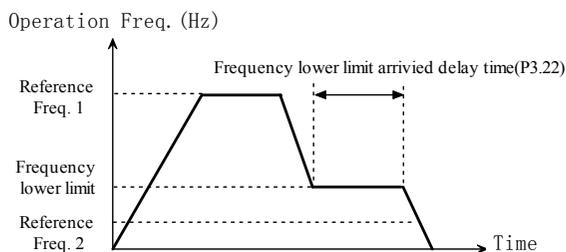

Fig. 5-2-4 Zero-speed running
- ◆ If setting is 1, when reference frequency is lower than frequency lower limit, the inverter will run at frequency lower limit first and last the delay time set by P3.22, then run at zero-speed. As shown in Fig.5-2-4.